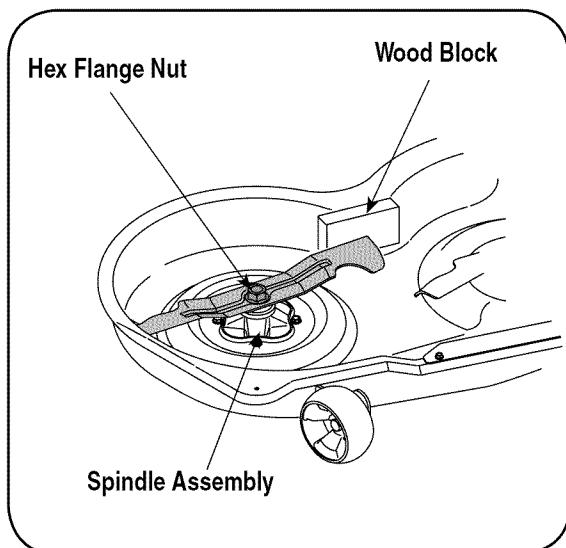

Figure 24
- A block of wood may be placed between the deck housing and the cutting edge of the blade to help in breaking loose the hex nut securing the blade. See Figure 24.